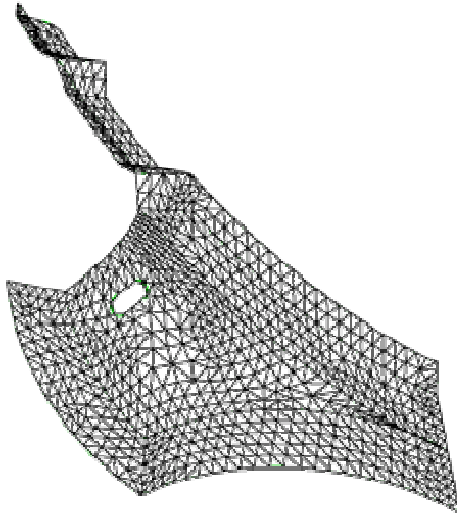

Figure 2. Triangle mesh generated with QTri scheme
2. The scheme **TriMesh** automatically switches between the TriAdvance and the QTri schemes. First, it tries the **TriAdvance** scheme; if that fails, it tries the QTri scheme. The QTri scheme first paves the surface and then cuts the quadrilateral elements in half to form triangles. Figure 2 shows an example of a mesh created with the QTri method.